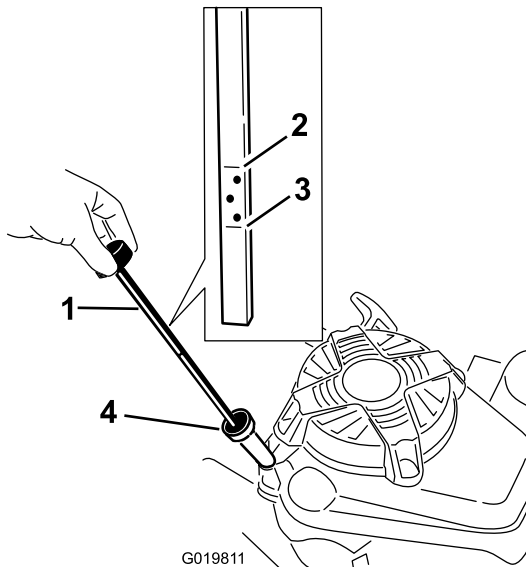

Figure 12
Before each use, ensure that the oil level is between the **Add** and **Full** marks on the dipstick (Figure 12).
2. Clean around the dipstick (Figure 12).
6. Read the oil level on the dipstick (Figure 12).